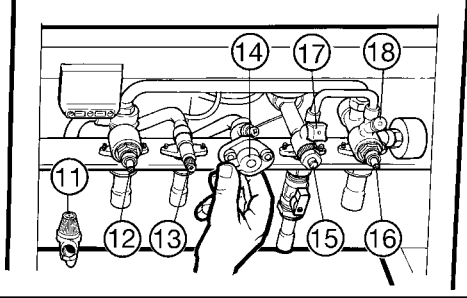

Fig. 8
Turn the service selection dial (1) to  (see Fig. 8) The boiler is now programmed to provide a service of Heating and Domestic Hot Water, with preference for the latter.
Turn the heating selector (2) to the temperature required (see Fig. 8). If there is a heating demand, the boiler will start up.